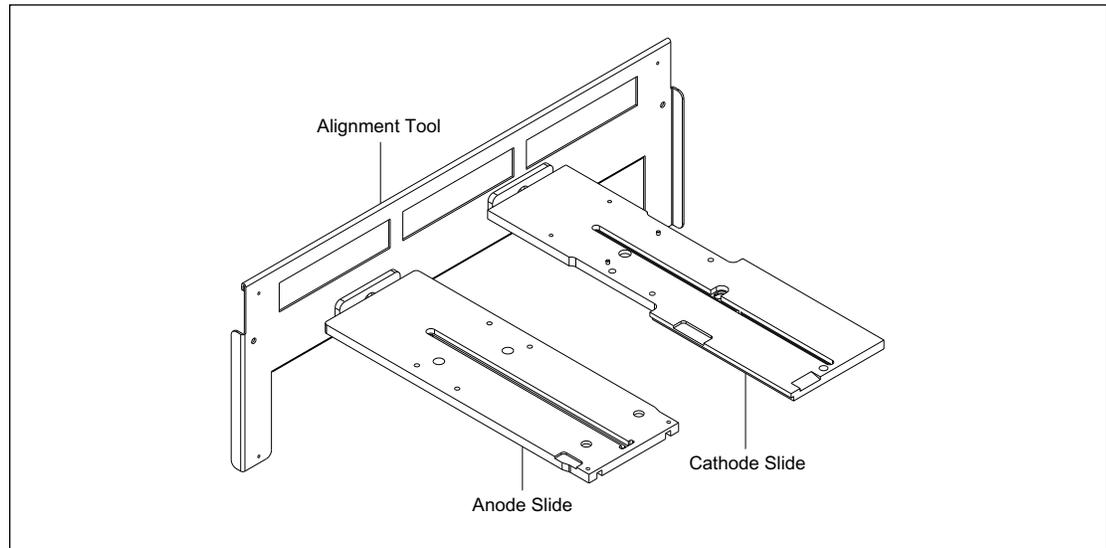

Figure 8-9. Slides Mated with Alignment Tool.
4. Position the cathode/anode assembly so that the metal pin at the end of the slide fits into the slot in the alignment tool and the front surface of the slide is flush against the surface of alignment tool. See figure 8-9.